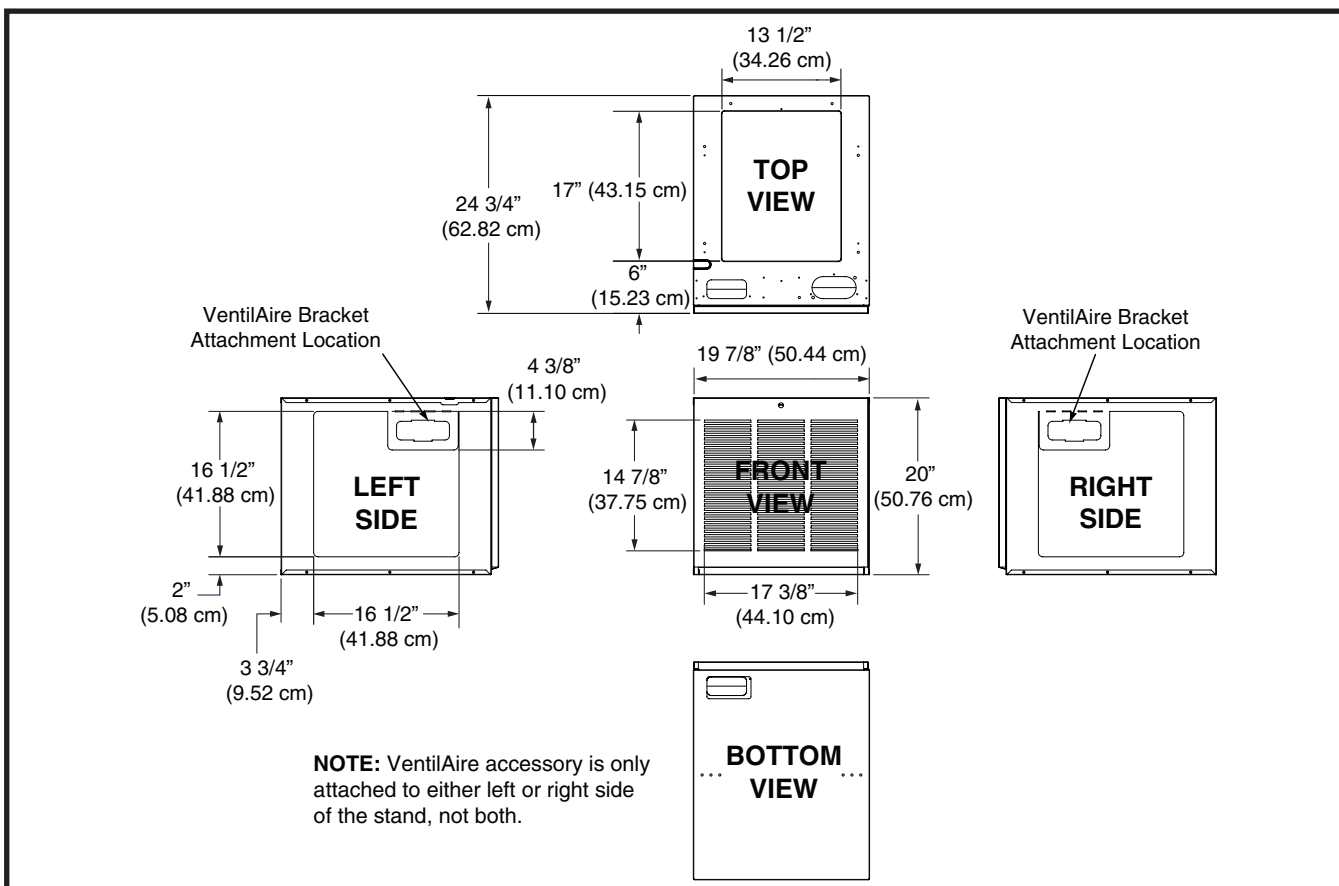

Figure 20. E7 Appliance Upflow Stand Dimensions
- The thermostat should be mounted about 5 feet (1.5 m) above the floor on an inside wall. DO NOT install the thermostat on an outside wall or any other location where its operation may be adversely affected by radiant heat from fireplaces, sunlight, or lighting fixtures, and convective heat from warm air registers or electrical appliances. Refer to the thermostat manufacturer's instruction sheet for detailed mounting information. See Figure 20 (page 14) for typical thermostat connections.
- NOTE:** Installation of at least a four-wire thermostat circuit is required. However best practice is to use five-wire for future addition of a heat/cool thermostat. Any unused thermostat leads must be properly capped. See Figure 20 (page 14) for various thermostat connections.